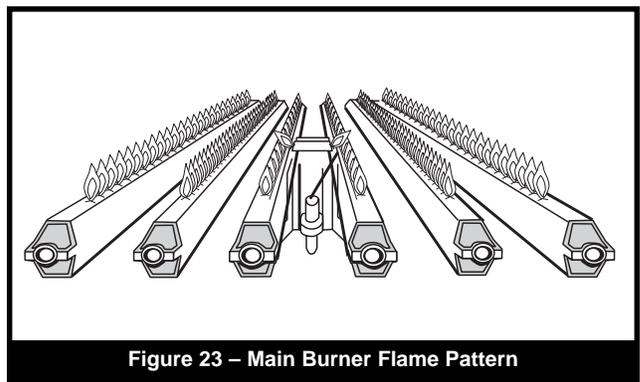

Figure 23 – Main Burner Flame Pattern
- 2. If a strainer is employed in a pressure reducing valve or in piping, clean it every six (6) months.
- 3. At start-up and every six (6) months thereafter, the pilot and main burner flame should be observed for proper performance (see **Figure 23**). See attached lighting and shut-down instructions for proper pilot flame pattern). If flame has the appearance of “sooting” tips, check for debris near orifices. Call serviceman.